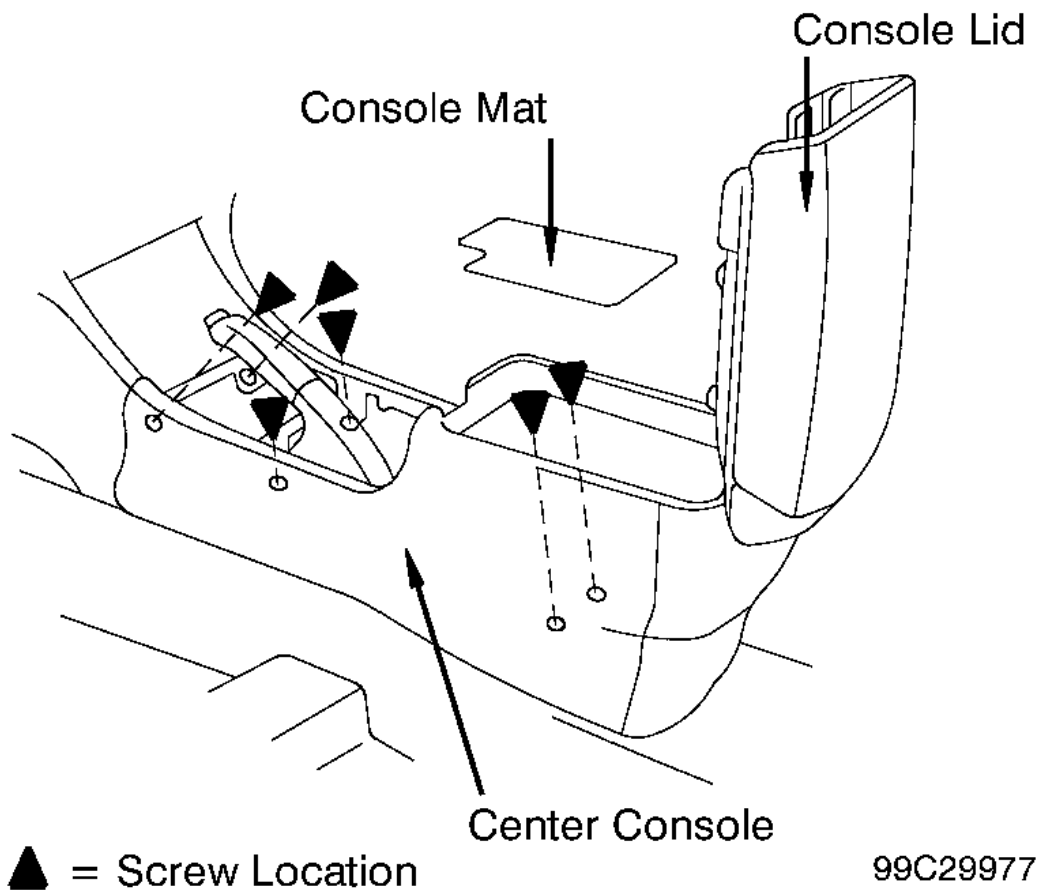

Fig. 14: Identifying Center Console
4. Open console lid and remove console mat. See **Fig. 14** . Remove console mounting screws. Disconnect rear power socket. Pull up on areas of center console, release hooks at front of console and remove center console.